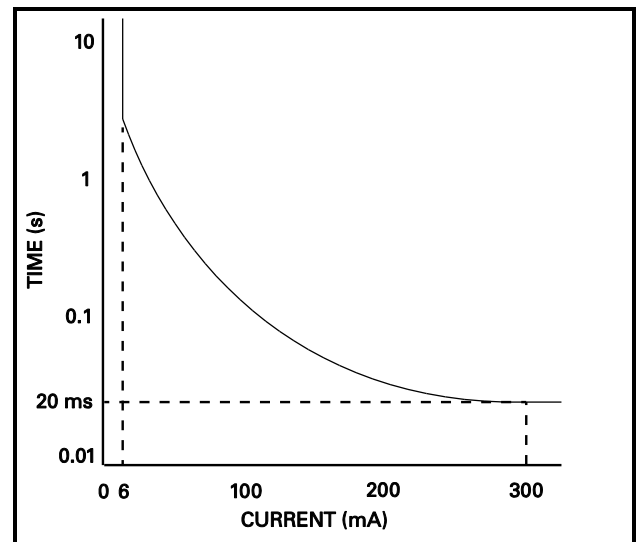
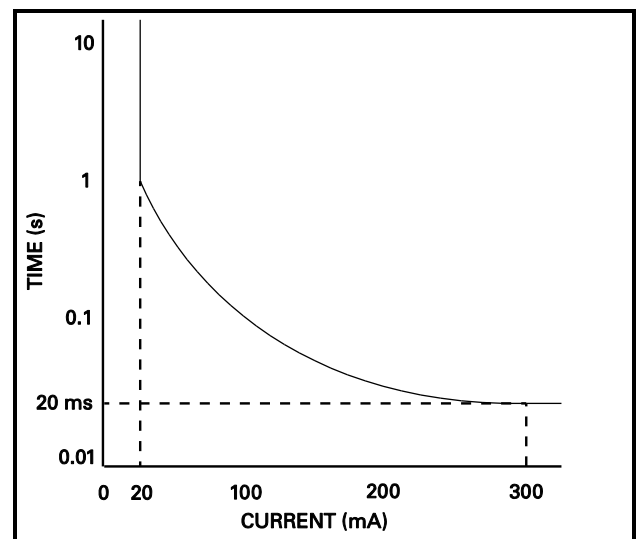

FIGURE 17. Class-A GFCI Curve.
FIGURE 18. Class-C and -D SPGFIC Curve.
Fig. 17 shows the Class-A GFCI maximum-trip-time-versus-current curve defined by UL 943 (with the above formula); UL 943 also defines a limit to the formula, with a minimum required trip time (or fastest trip speed) of 20 ms, which occurs at about 300 mA of ground-fault current (I) per the formula. Class C and D SPGFICs must operate within this same curve, except that their operating threshold is 15 to 20 mA (non-adjustable). See Fig. 18. The SB5000 EGFPDs described in this manual also operate within the Class-A formula, but have a 6- to 100-mA threshold setting range.